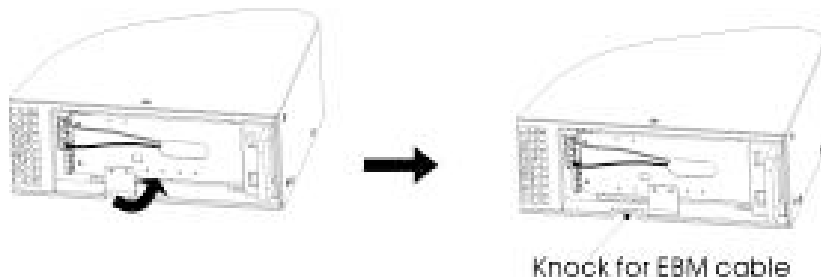

Figure 9: Removing the UPS Cable Knockout
b) On the bottom of the UPS front cover, remove the EBP cable knockout (see Figure 9).